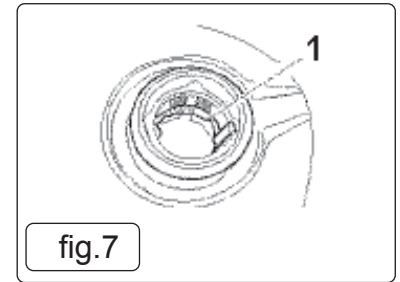

fig.7
4.7.6. Pour in fuel up to the red line fig.7. (1)